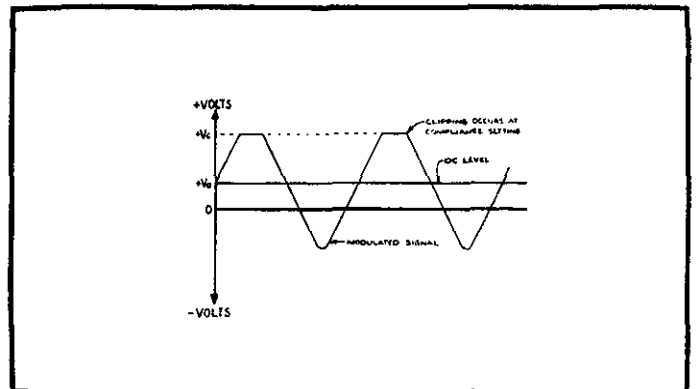

FIGURE 11. Modulation.
c. Voltage Compliance. The setting of the voltage compliance can cause clipping of the modulated current as shown in Figure 11.